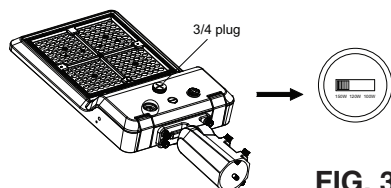

FIG. 3
1. Remove the 3/4 NPT plug and adjust the switch to the desired power setting (see **Fig. 3**).